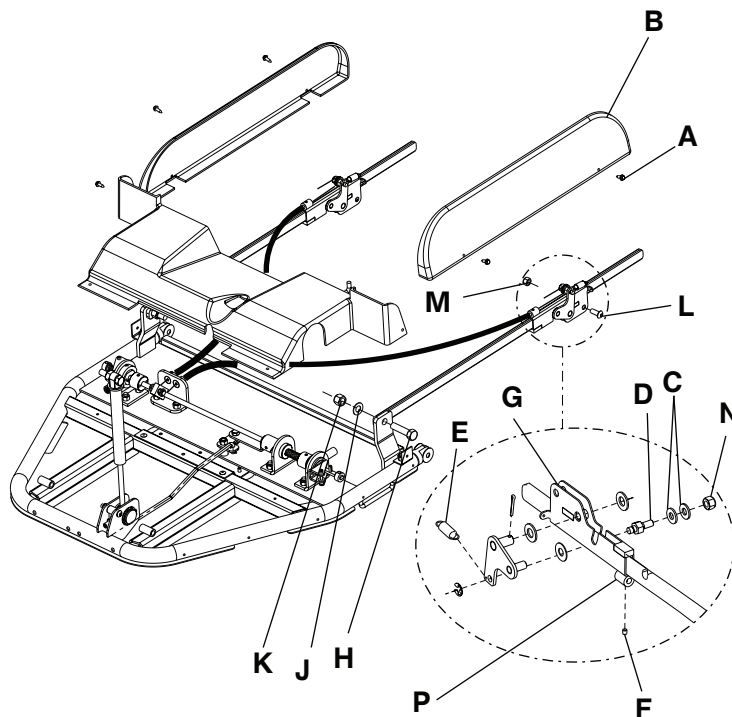

Figure 17 – Leg section locking link replacement
5. Using a 1/4" nut driver, remove the screws (A) that secure the cover (B) to the frame to remove the cover (Figure 17). Save all parts.
6. Using a 5/64" hex wrench, remove the set screw (F) from the cable stop on the latch housing. Save the set screw.
7. Using two 7/16" combination wrenches, loosen the cable retainer (D) and the nut (N). Pull the cable and cover free from the latch housing (G). Save all parts.
8. Using two 9/16" combination wrenches, remove the bolt (H), washer (J), and the nut (K) that secure the locking link assembly to the foot section. Let the linkage swing down. Save all parts.
9. Using a 3/16" hex wrench and a 1/2" combination wrench, remove the screw (L) and nut (M) that secure the locking link assembly to the Fowler backrest. Remove the locking link.